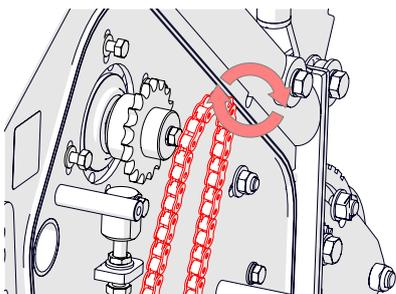

Fig. 15F - Replace the chain.
6. Replace the chain/belt, if required (Fig. 15F).